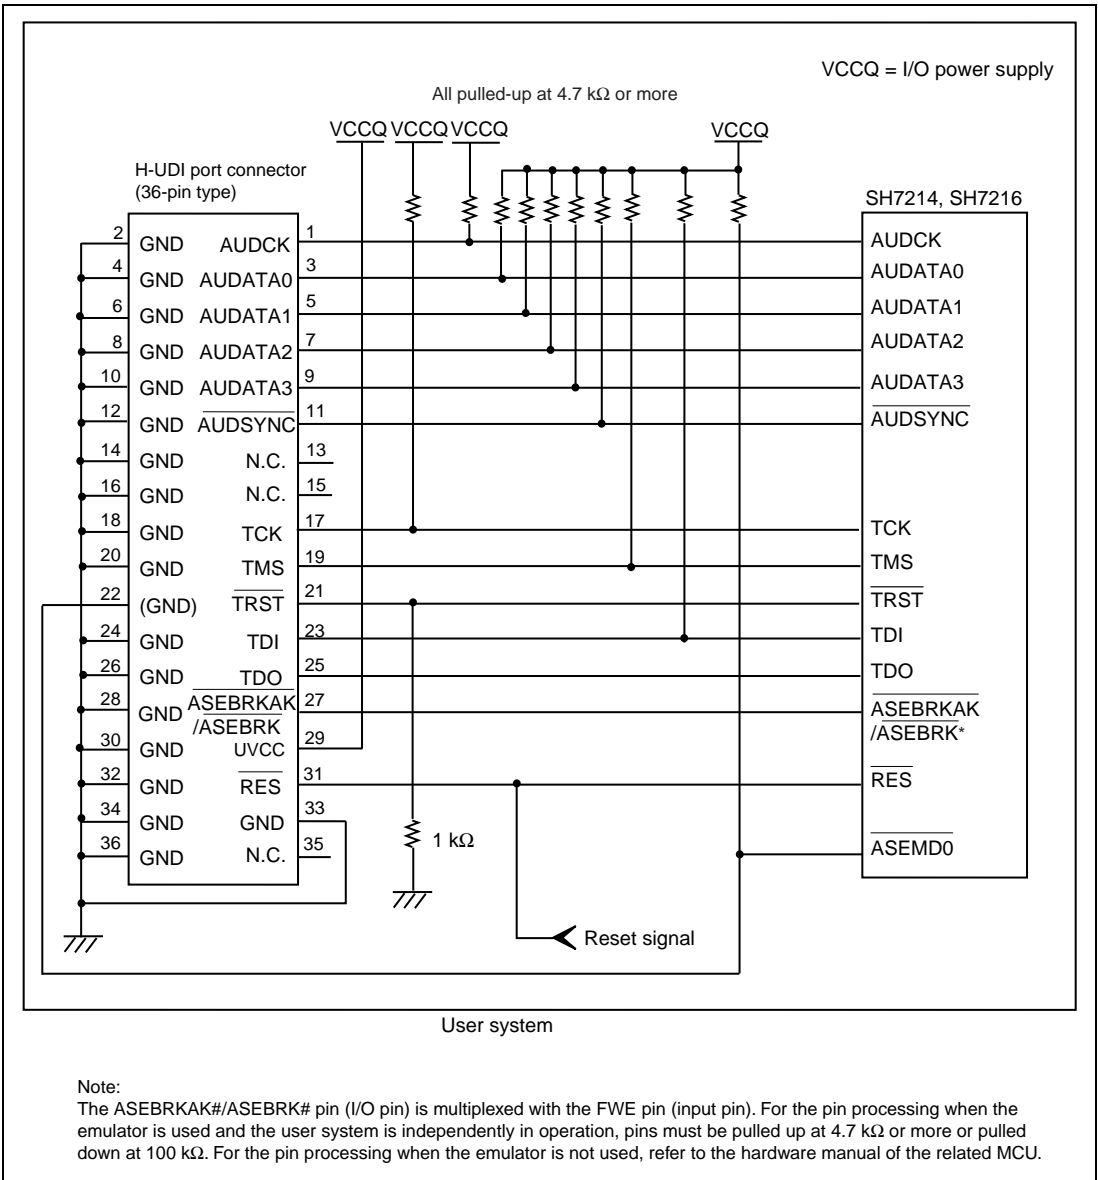

Figure 1.5 Recommended Circuit for Connection between the H-UDI Port Connector and MCU when the Emulator is in Use (36-Pin Type)
Figures 1.5 shows recommended circuits for connection between the H-UDI and AUD port connectors (36 pins) and the MCU when the emulator is in use.
- (1) When the emulator is used: ASEMD0# = 0
- (2) When the emulator is not used: ASEMD0# = 1Figures 1.5 shows examples of circuits that allow the _ASEMD pin to be GND (0) whenever the emulator is connected by using the user system interface cable. When the ASEMD0# pin is changed by switches, etc., ground pin 22. Do not connect this pin to the ASEMD0# pin.
7. The resistance values shown in figures 1.5 is for reference.
When the circuit is connected as shown in figure 1.5, the switches of the emulator are set as SW2 = 1 and SW3 = 1. For details, refer to section 3.8, Setting the DIP Switches, in the SuperH™ Family E10A-USB Emulator User's Manual.